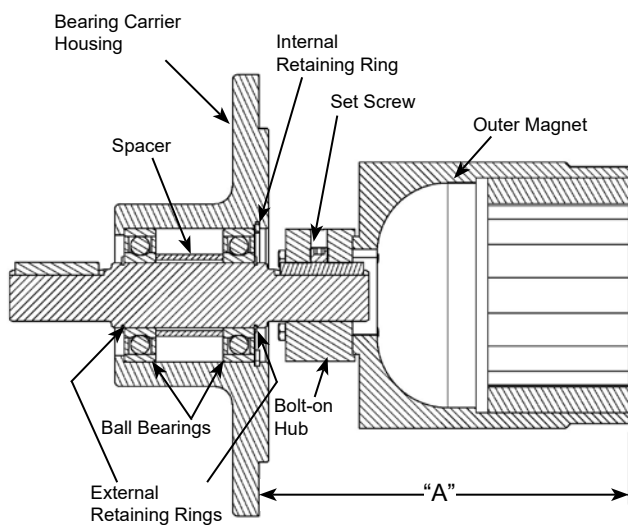

FIGURE 23
1. Place some Loctite® on the O.D. of the first bearing and press into the housing bore. Position the bearing spacer in the bore and insert the second bearing. Center the bearing spacer then press in the shaft with one external retaining ring on shaft. Press down until the ring contacts the bearing race, then install the second ring. Install the internal retaining ring into the bearing housing. See Figure 23, page 13.
2. Slide the outer magnet assembly onto the pump shaft. Locate the outer magnet per dimension "A" listed below then tighten the two setscrews. See Figure 23, page 13.